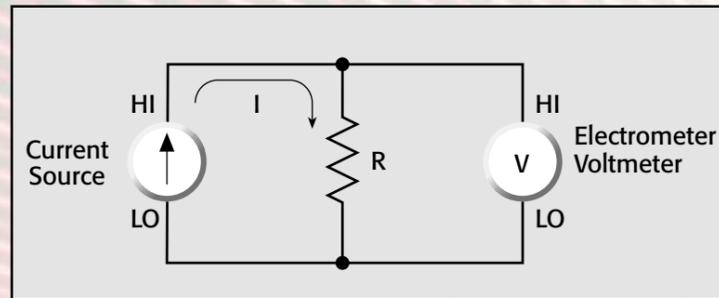

Figure 14: Constant-Current Method Using a Separate Current Source and Electrometer Voltmeter
The basic configuration for the constant-current method is shown in **Figure 14**. Current from the source (I) flows through the unknown resistance (R) and the voltage drop is measured by the electrometer voltmeter (V). Using this method, resistances up to about $10^{12}\Omega$ can be measured. Even though the basic procedure seems simple enough, some precautionary measures must be taken. The input impedance of the voltmeter must be high enough compared with a source resistance to keep the loading error within acceptable limits. Typically, the input impedance of an electrometer voltmeter is about $10^{14}\Omega$. Also, the output